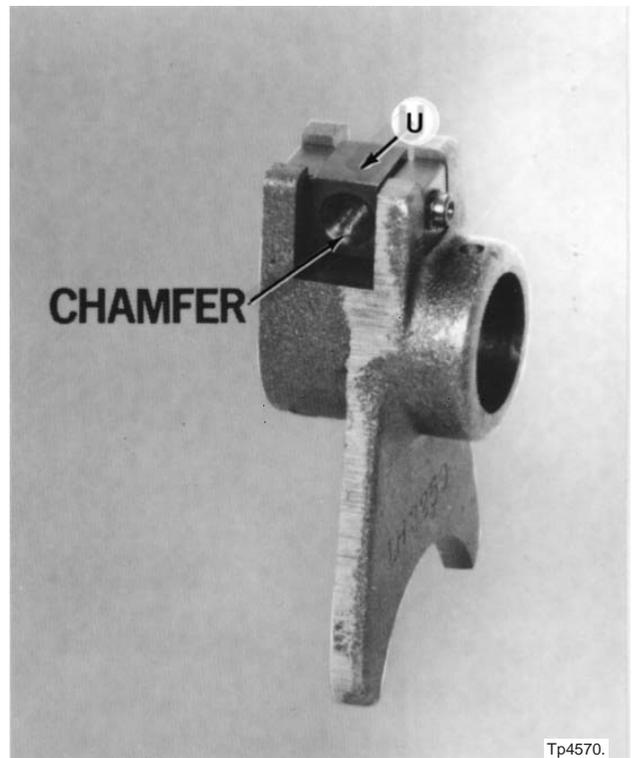

Figure 6.24 - Reverse Lever
1. Position block "U", Figure 6.24, in the reverse lever with the chamfered end of the hole oriented as shown.